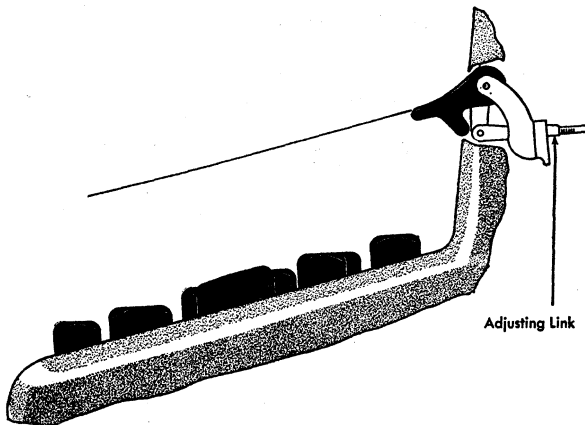

Figure 40. Tab Set and Clear Link Adjustment
14. TAB SET AND CLEAR LINKS. Adjust these so that when the set and clear buttons are at rest, the slope of their upper surfaces will be parallel to the slope of the keyboard (Figure 40).